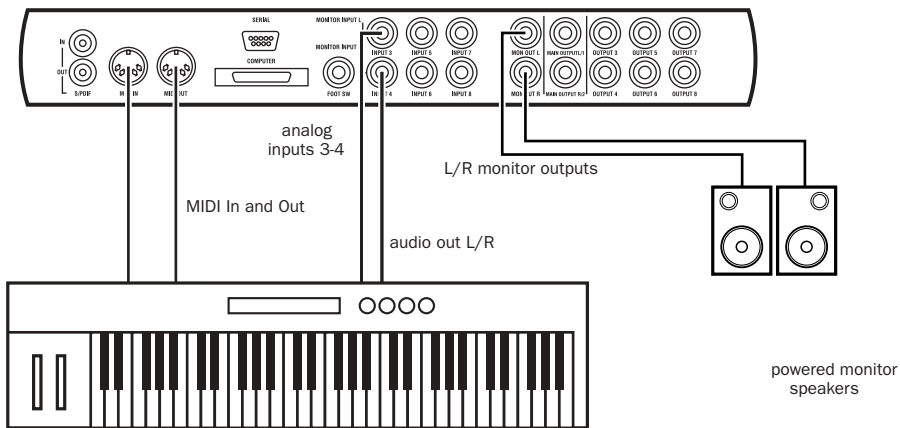

Figure 7. Connecting a synth to a Digi 001
- Plug line-level sources (synths, outputs from your mixer, or microphones or guitars that have been amplified by an outboard preamp) into the analog inputs on the back of the Digi 001 I/O Box (see Figure 7 on page 38).